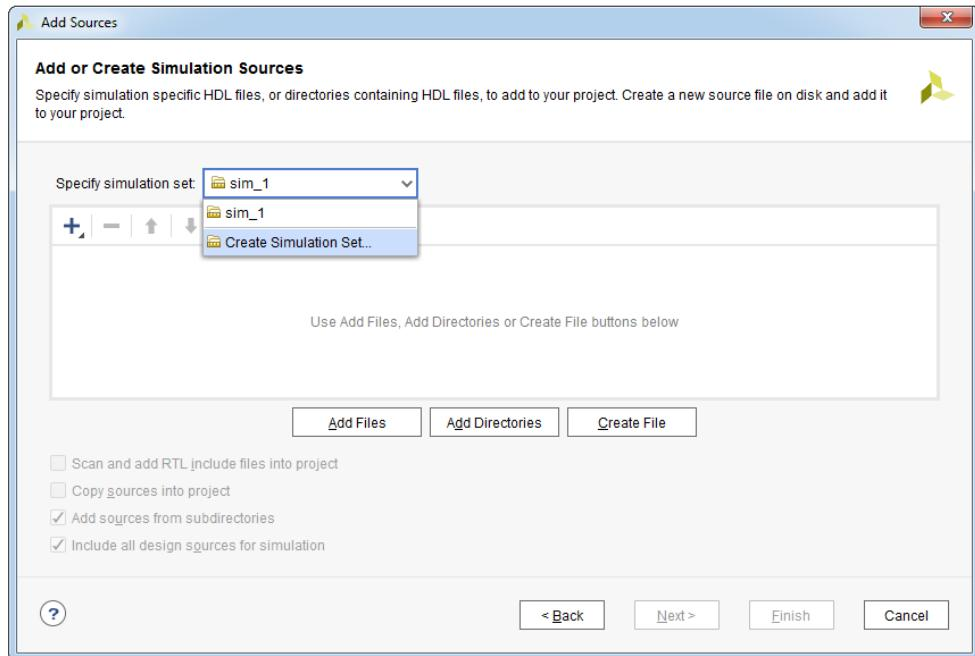

Figure 3.2: Create Simulation Set option
2. In the **Add or Create Simulation Sources** dialog box, click on the **Specify simulation set** drop-down list and choose **Create Simulation Set...** option, see Figure 3.2.